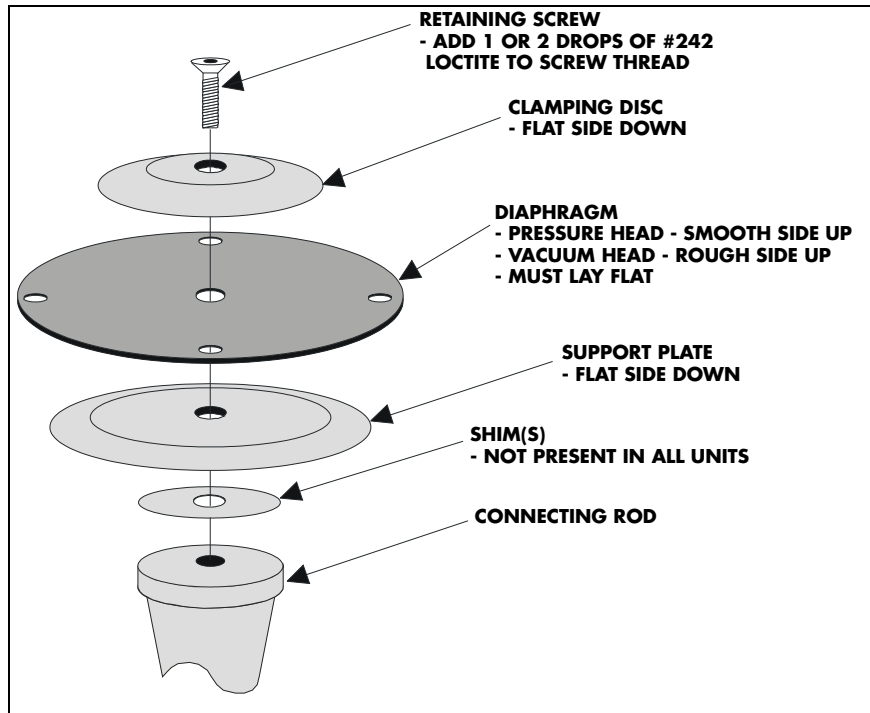

FIGURE 5-3 Diaphragm Reference
4. Loosen and remove the diaphragm retaining screw (See Figure 5-3).